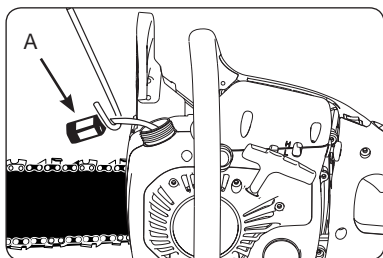

Fig. 19
4. Lift filter (A) out of tank (Fig. 19).